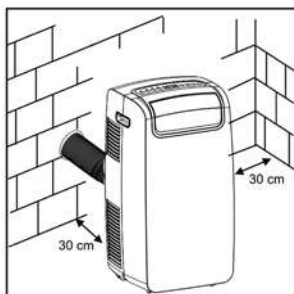

Fig. 6
If required, your appliance can also be installed semi permanently (Fig. 6)
- Insert another end of the hose assembly to the fixture previously fit on the wall a shown in (Fig. 6)